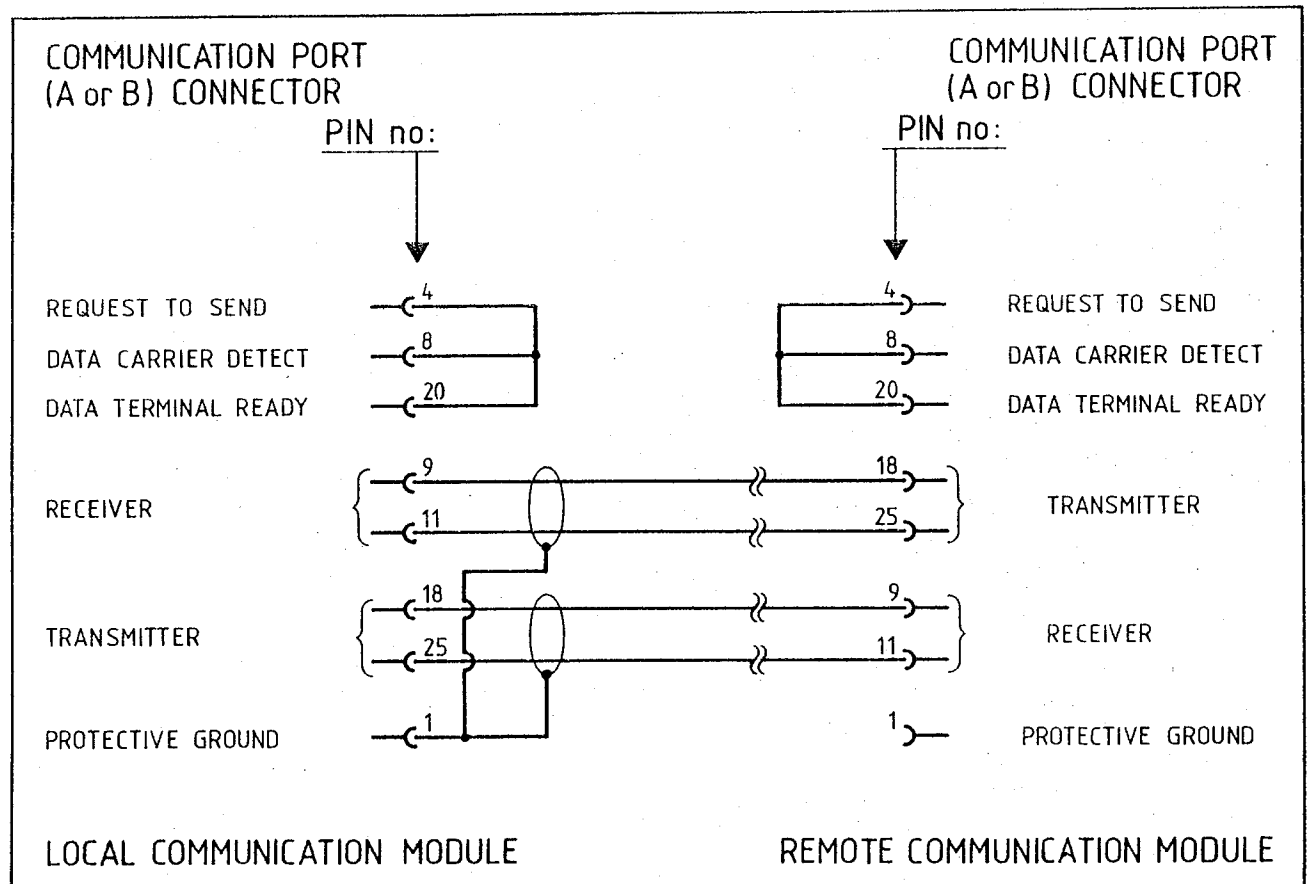

Figure 16 - 20 mA Current Loop Module-to Module Communication Connection Diagram
**20 mA Current Loop Module-to Module Communication** — Mutual exchange of information between two remote PC systems can be established using a Communication Module with Current - Loop Option at both sides. To interconnect the two Communication Modules follow the typical connection diagram in figure 16. The relevant
**Step 3** — Connect the communication cable as prepared in accordance with figure 16 to both Communication Module Port (A or B) Connectors. (The system drawings should show to which Port).
This description provides a quick overview of the Module's major circuit components and their functions. It is not necessary to read this information in order to install or use the unit. (See figure 16)